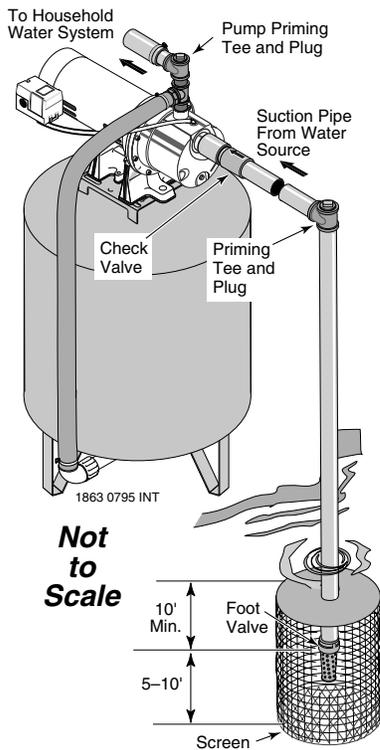

Figure 3: Surface Water Installation
INSTALLATION FOR SURFACE WATER (Figure 3)
2. Assemble a foot valve and suction pipe (see Figure 3). Make sure that the foot valve works freely. Use teflon tape or a teflon-based pipe joint compound on threaded pipe joints. Protect the foot valve assembly from fish, trash, etc, by installing a screen around it (see Figure 3).
4. Install a priming tee, priming plug, and suction pipe to the pump (see Figure 3). Support the pipe so that there are no dips or sags in the pipe, so it doesn't strain the pump body, and so that it slopes slightly upward from the well to the pump (high spots can cause air pockets which can air lock the pump). Seal the suction pipe joints with teflon tape or a teflon based pipe joint compound. Joints must be air- and water-tight. *If the suction pipe can suck air, the pump cannot pull water from the well.*